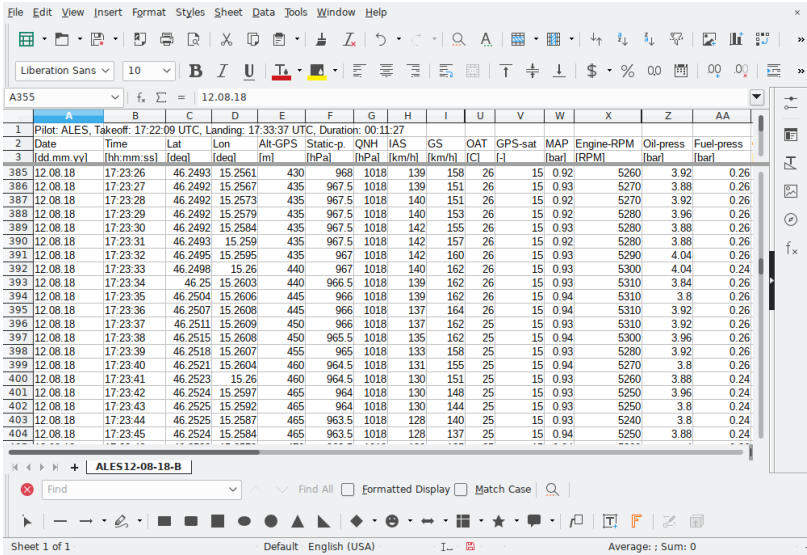

Figure 18: An example of flight details upon successful import.
6. The result of the import is then shown on Figure 18. Some column widths were adjusted and some cells were hidden.